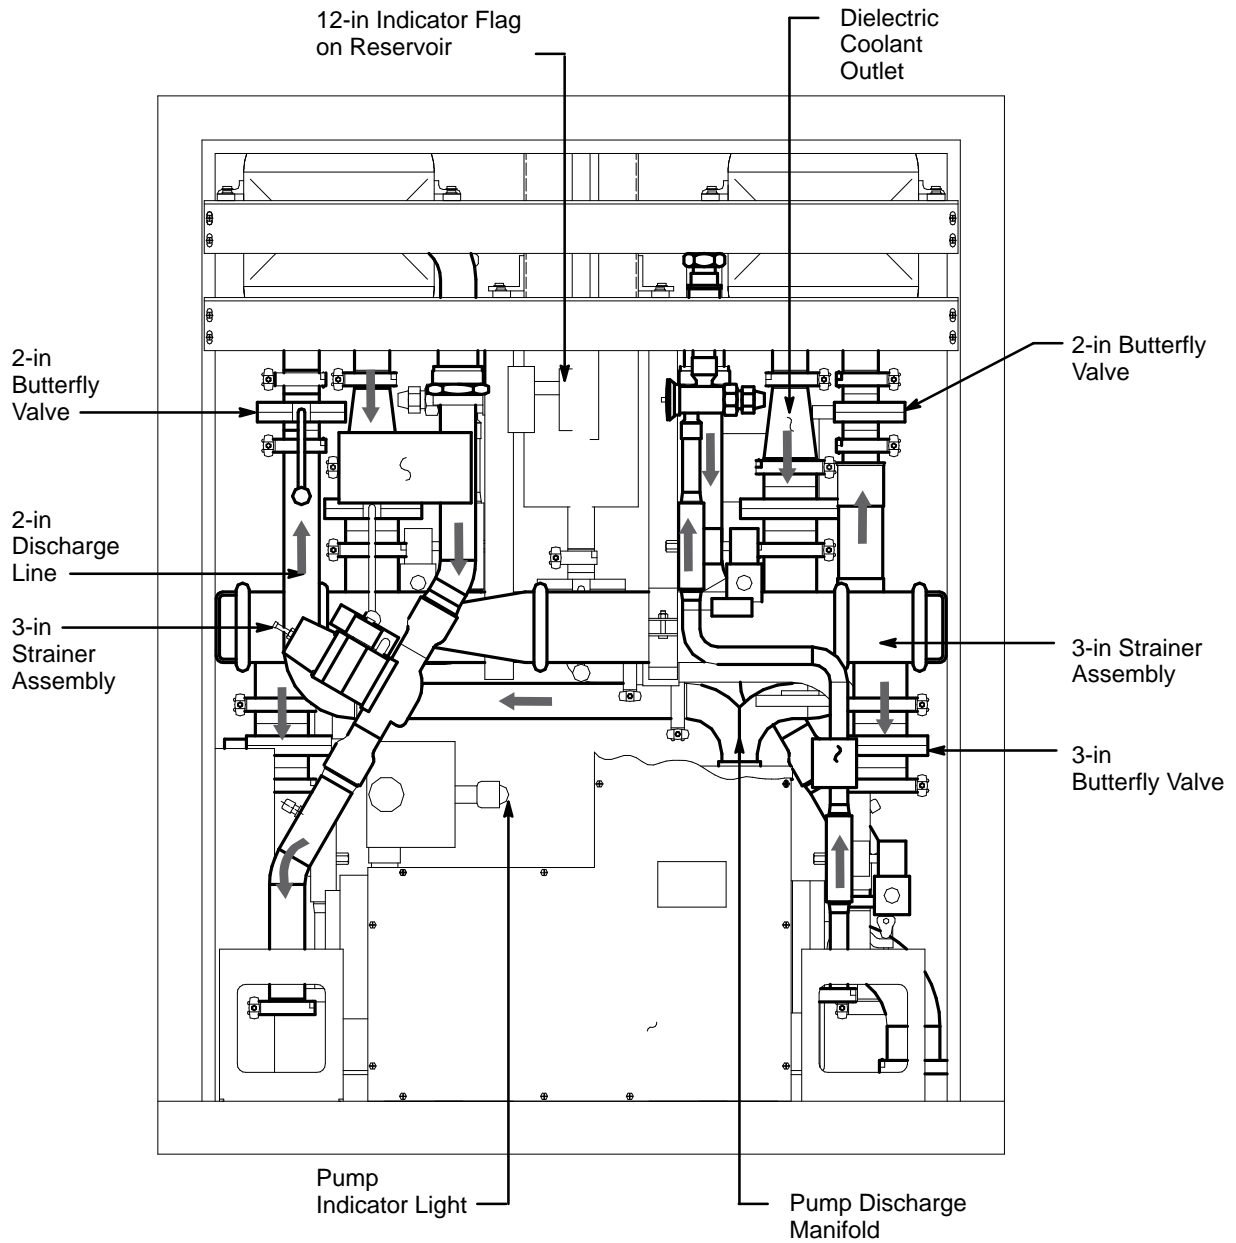

Figure 11. HEU Strainer Assembly Location
3. Close the inlet and outlet valves to the HEU strainer assembly. Refer to Figure 11. When the butterfly valve lever is horizontal, the valve is closed.